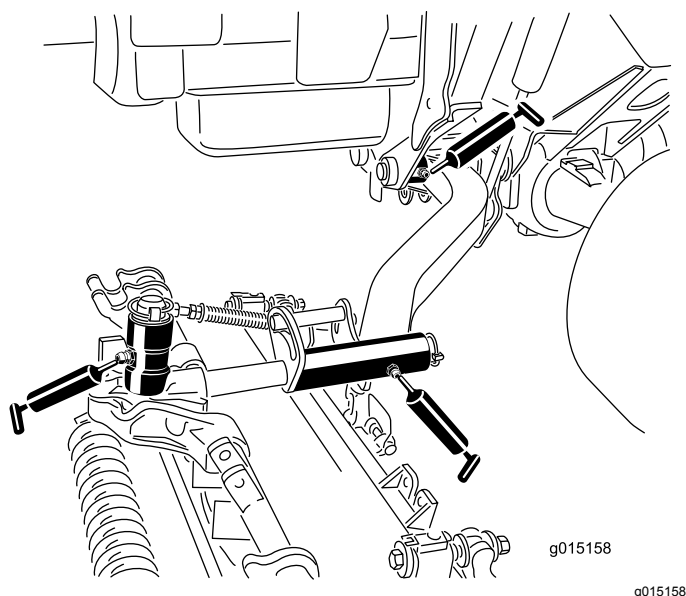

Figure 45
- Lift arm pivot bushings (1 per cutting unit) (Figure 45)
- Cutting unit carrier frame (2 per cutting unit) (Figure 45)
- Cutting unit lift arm pivot (1 per cutting unit) (Figure 45)